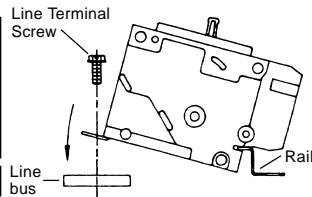

Fig. 1
- 1. Position device on mounting rails. Rotate into position as shown in illustration Fig 1.